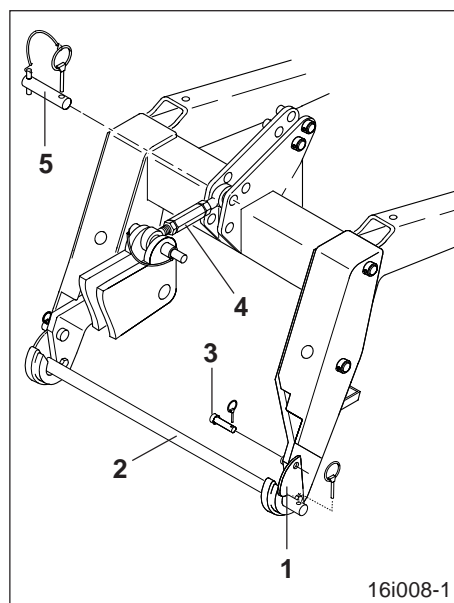

Fig. 13.5
- Drive with the soil tillage implement towards the seed drill. Seed drills equipped with lower link points of the cat. II can be coupled. After coupling has been completed, slide the securing plates (Fig. 13.5/19 ONTO THE PINS 8Fig: 13.5/2) of the lower link arms and secure each securing plate by using a pin (Fig. 13.5/3) and secure in place by using a linch pin.
- Connect the short top link (200 to 260 mm - Fig. 13.5/4) to the upper coupling point of the seed drill and to the lifting frame using the pin  $\varnothing 25 \times 100$  mm (Fig. 13.5/5). Secure the pin in place by using a linch pin and align the seed drill.